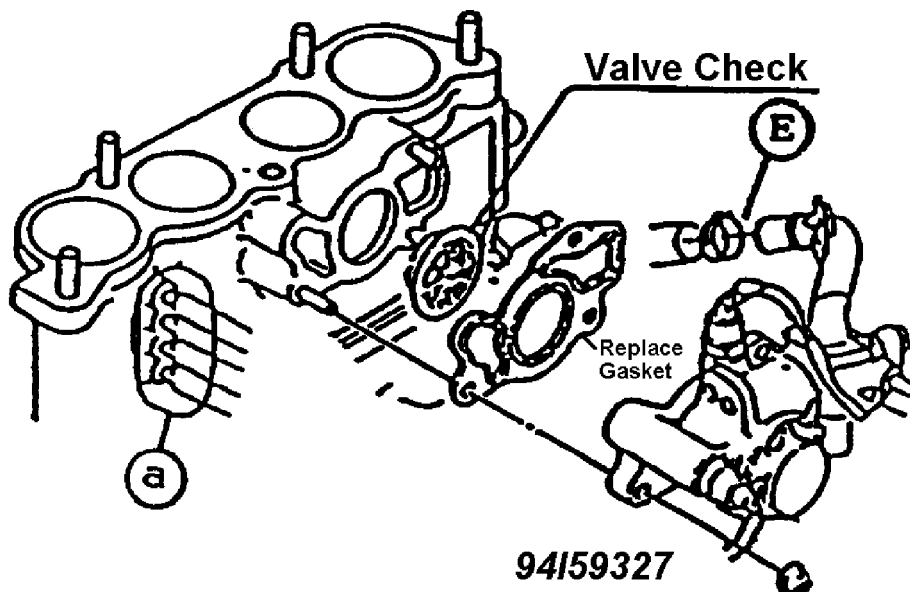

Fig. 14: Removal of Relief Air Hose & Vacuum Tubes
2. Remove the relief air hose. See E in Fig. 14.
See A in Fig. 14. Replace the vacuum tubes with new ones.